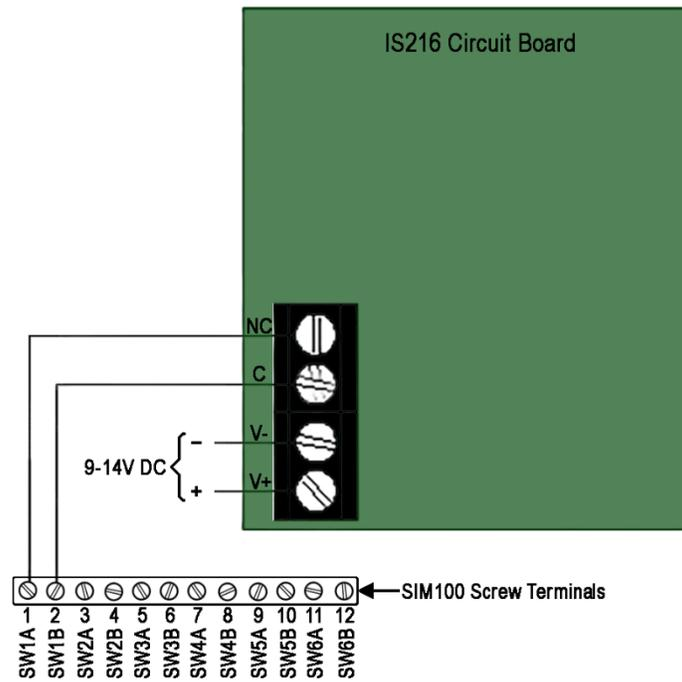

Figure 1 – Wiring Diagram
Please follow these instructions to connect the IS216 motion detector to the NMEA 2000® network via a Maretron SIM100 Switch Indicator Module. The wiring diagram appears in Figure 1 on the reverse of this page. The diagram shows a connection to channel #1, but connections to other channels are similar.
2. Connect the IS216 NC and C terminals (Normally Closed and Common relay connections) to a free switch channel of the SIM100. The example in Figure 1 shows the detector connected to the SIM100 switch channel 1, terminals "SW1A" and "SW1B".